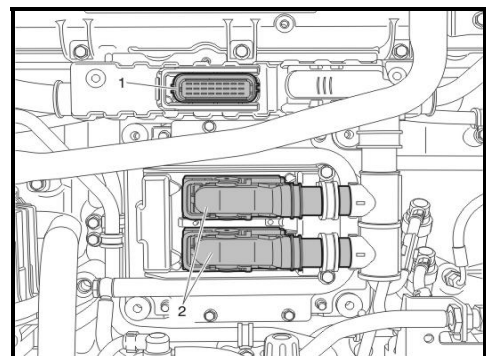

FIGURE 21
14. Connect the harness to the ECM and vehicle harness connections on the cold side of the engine (fig. 21). Install nylon cable ties and P-clamps as necessary.